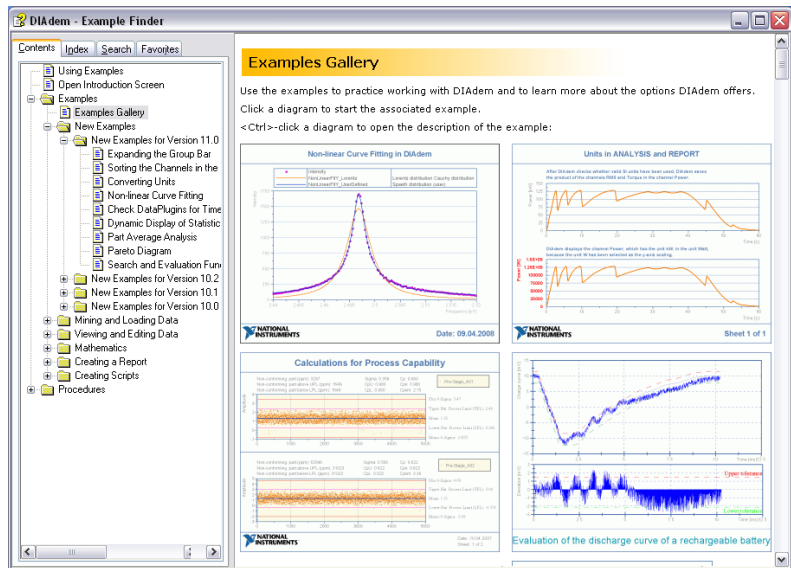

Figure 1-3. The Examples in DIAdem
DIAdem closes the introduction screen and opens the ExampleFinder with a preview of the report examples as shown in Figure 1-3.
4. Navigate the ExampleFinder in the table of contents as shown in Figure 1-3 to find simple solutions as well as more extensive applications for data analysis, for report generation, and for script generation.